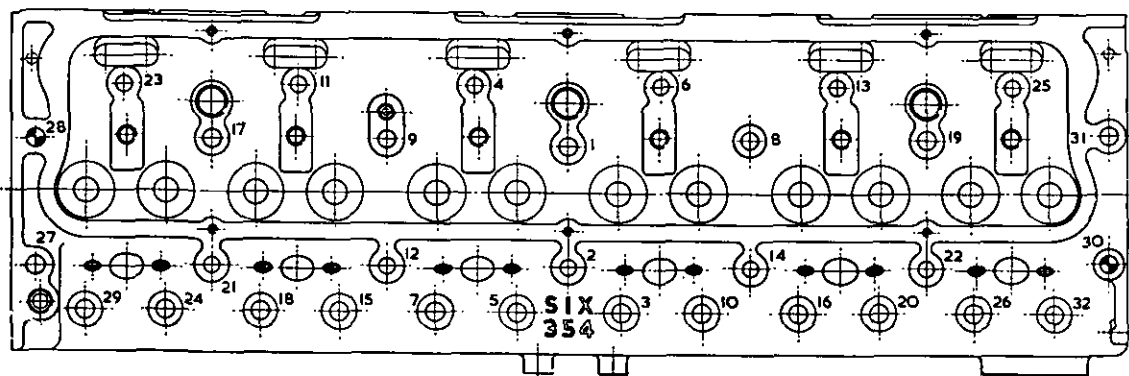

Fig. E.13. Cylinder Head Tightening Sequence.
2. Fit cylinder head to cylinder block. Lightly oil nuts and studs before fitting. Tighten cylinder head nuts progressively in three stages in the order as shown in Fig. E.13, until a torque as given on page B.2 is achieved. The final stage should be repeated.  $\frac{1}{2}$  in cylinder head studs were introduced as from Engine No. 8060000.
16. After warming through, the engine should be shut down and the cylinder head nuts again tightened to the correct torque and in the correct sequence, as shown in Fig. E.13.